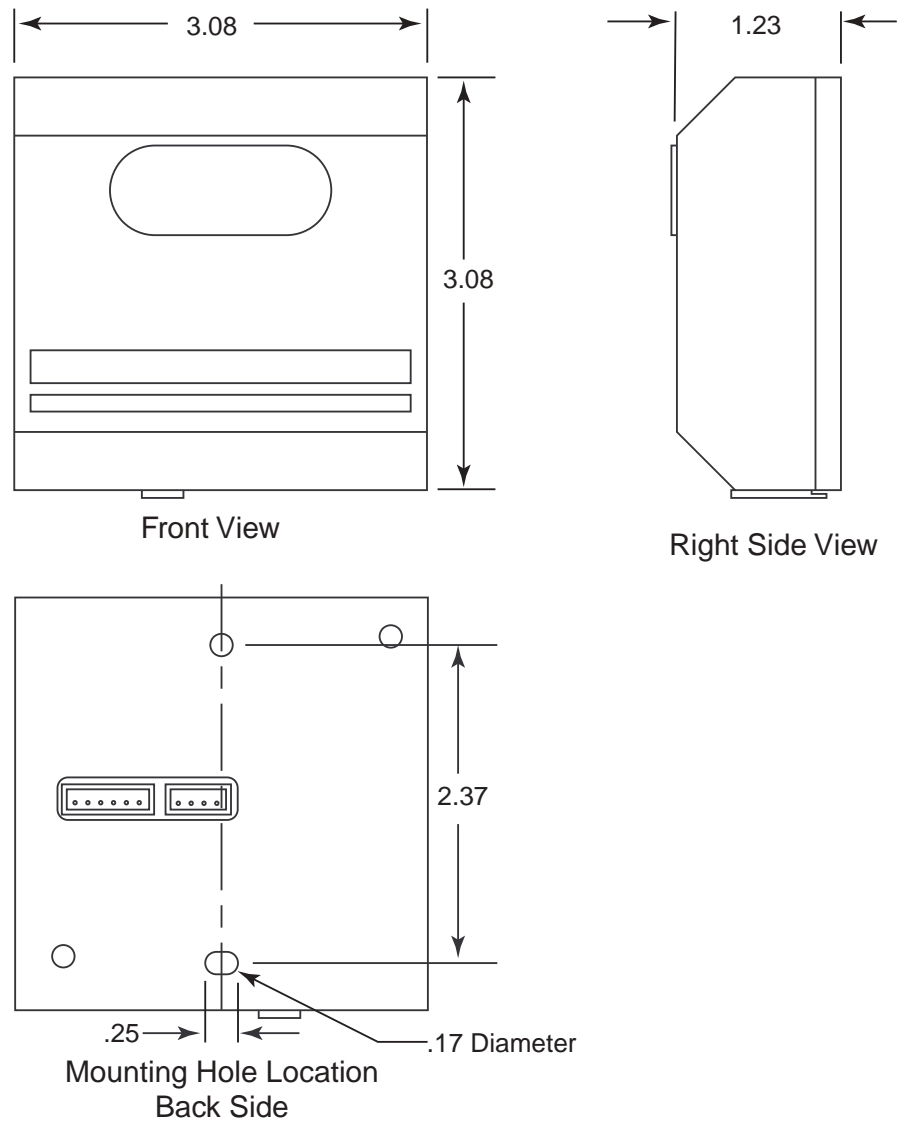

Figure 2: RI-215A Outline and Mounting Dimensions
- Use two screws to secure the base plate to the wall. Figure 2 below shows the location of the screw holes in the base plate.